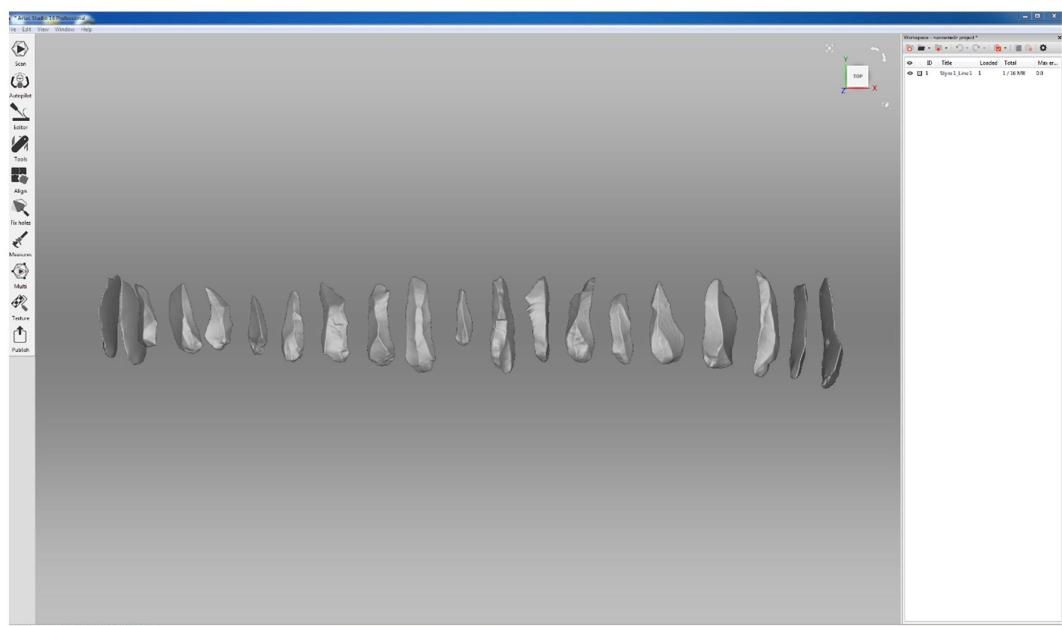

Fig. 30: Loaded line 1 in correct position.
43.1 Rotate the line model with the left mouse curser in the 3D View Panel as shown in Fig. 30. Remember to position the scan so that the artefacts in the model correspond to their actual order, i.e., the first artefact in the model must be the first one in the list, so it is positioned in the upper left. Also remember to look at the scan from the correct side. This can be done by orienting the scan using the reference pictures.